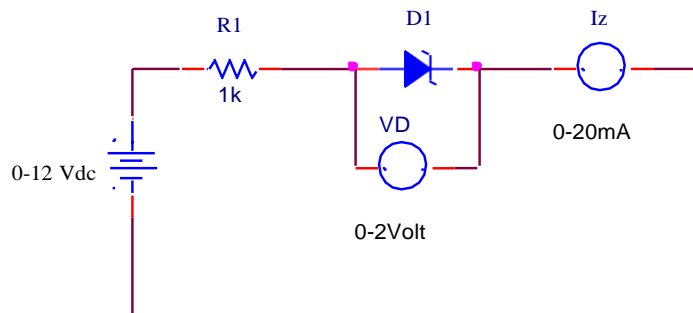

Fig 4.1 Circuit diagram for forward bias condition of diode
1. Using suitable patch cords make connection as shown in Fig. 4.1 for forward characteristics